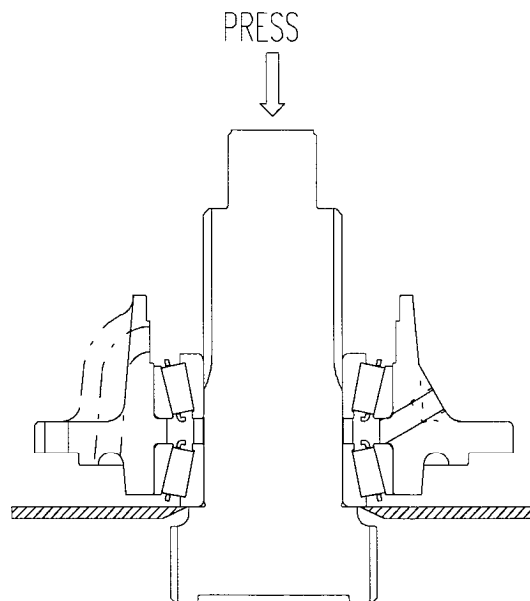

Fig. 40
3. Place the shaft assembly in a press such that the rear face of the bearing is supported by the separator and the press arbor is against the threaded end of the shaft. *See Fig. 40.*